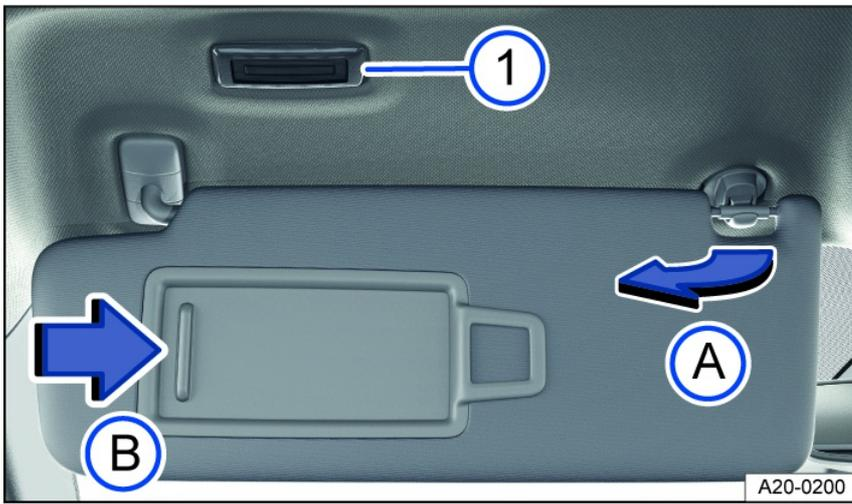

Fig. 103 In the front of the headliner: sun visor.
- Remove from the holder and tilt toward the door *fig. 103*.
When the sun visor is folded down, there is a vanity mirror located behind a cover. The lights *fig. 103* turn on when the cover *fig. 103* slides open.